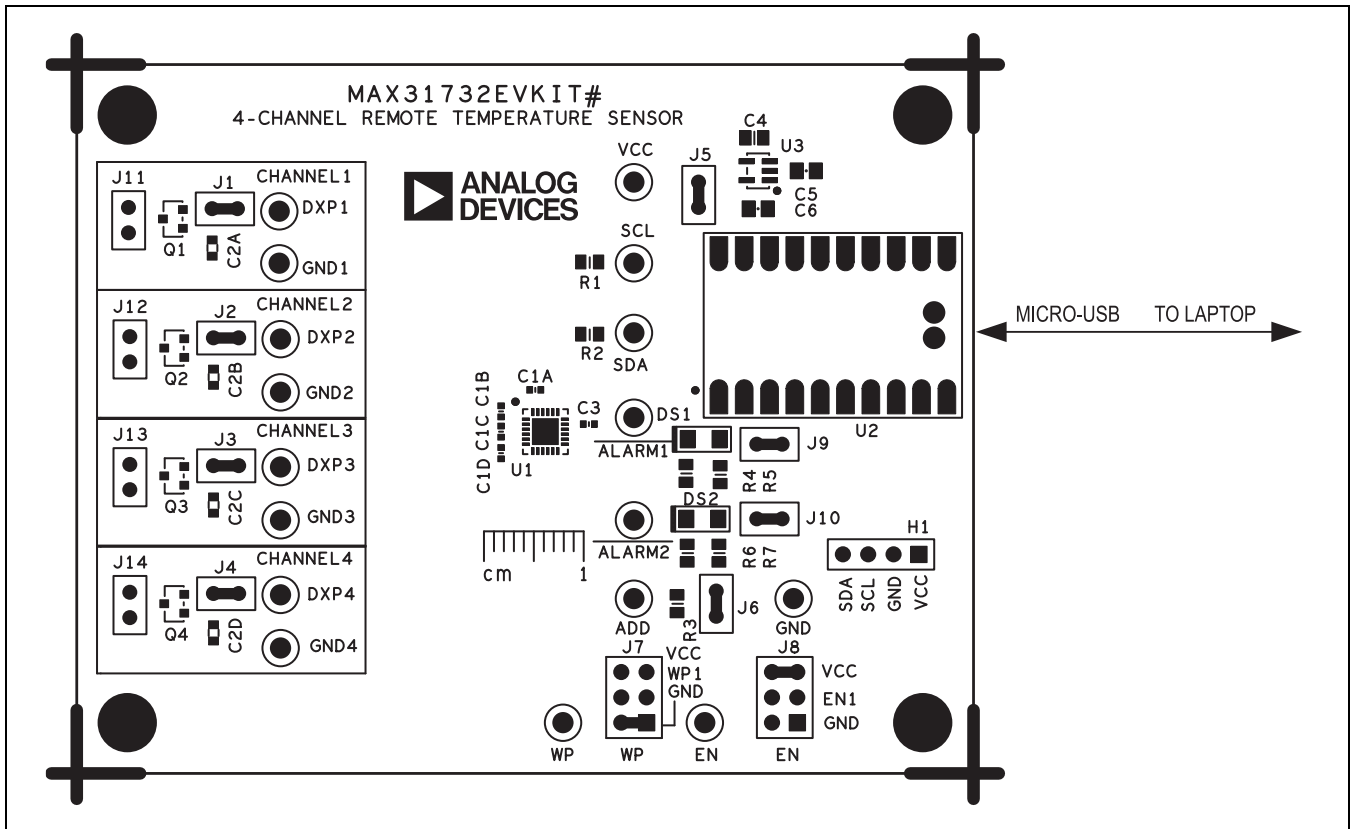

Figure 1. Board Connections
1. Ensure that all jumpers/shunts (J1–J10) are installed according to the EV kit Board Connections. See Figure 1.